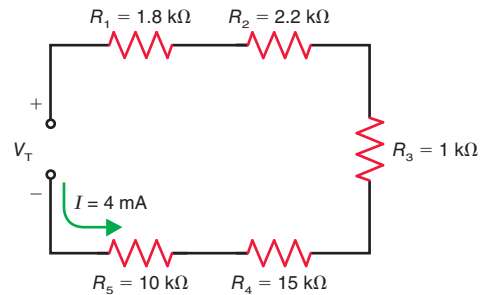

Figure 5-27
- 5.15 In Fig. 5-27, solve for the individual resistor voltage drops. Then, using Kirchhoff's voltage law, find V_T .